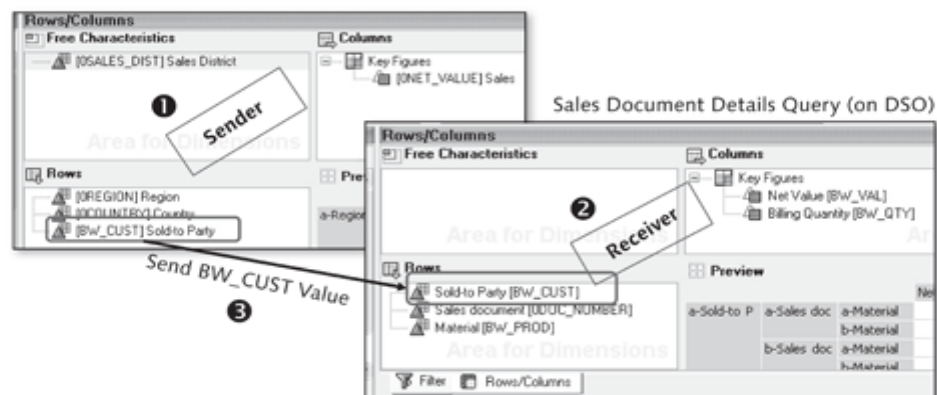

Figure 9.93 The Concept of Report-to-Report Interface (RRI)
For the given example, say there is a customer sales query on the InfoCube, which shows sales for different customers (❶ of Figure 9.93), and there is another query built on the DSO with detailed information that shows sales document details (❷). Using RRI, you can pass a specific value of customer from the customer sales query to the sales document query, which will show the documents for that specific customer.